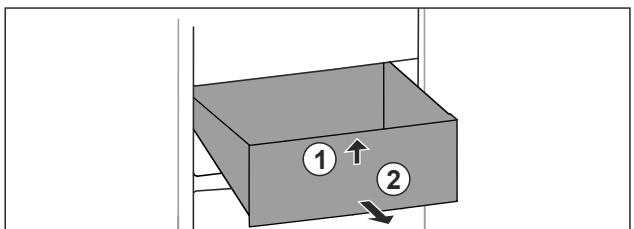

Fig. 114
- Lift up drawer at the front. Fig. 114 (1).
- Remove drawer to the front. Fig. 114 (2).